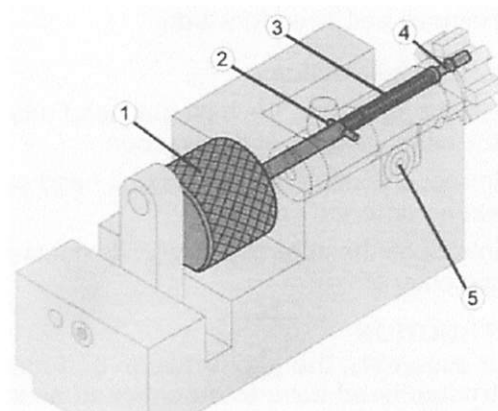

Fig. 49 Replace ejector and/or ejector spring
- ⇒ From the right, introduce pin punch into the assembly bore (Fig. 49/5) and remove clamping sleeve (Fig. 49/2)
- ⇒ Swivel locking lever downwards, in doing so hold on to pressure piece (Fig. 49/1) (Spring tension).
- ⇒ Remove ejector spring (Fig. 49/3) and ejector (Fig. 49/4) to the rear.
- ⇒ Introduce the ejector (Fig. 49/4) from the rear into the assembly tool with the rounded-off end forwards.
- ⇒ Insert ejector spring (Fig. 49/3) and push it forwards as far as it will go.
- ⇒ From the rear, introduce pressure piece (Fig. 49/1) with the flat side towards the bottom.
- ⇒ Introduce clamping sleeve (Fig. 49/2) into the assembly bore (Fig. 49/5) from the right, and using the pin punch, push it in until it is level on both sides.